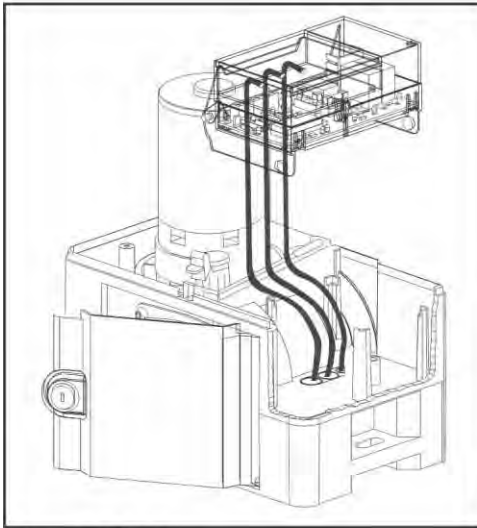

Figure 13 Cable Route
7. Remove the knock-outs from the gearbox and feed the cables through the holes, while fitting the gearbox to the base plate (Figure 13).